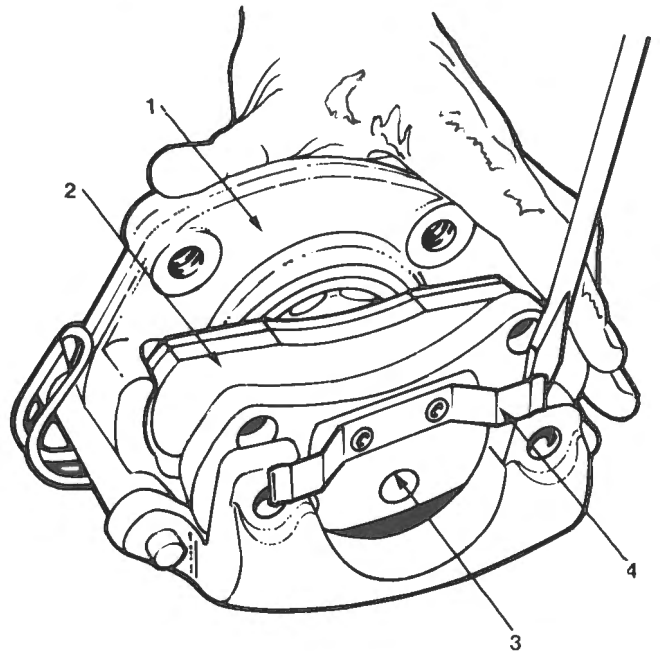

Fig. R-15
- 2 To remove the outboard pad, press inwards towards the inboard pad and at the same time slide the pad forward. Fig. R-15.
locate in the two holes in caliper housing Fig. R-15. The caliper is now fully assembled and ready for replacing on the vehicle.